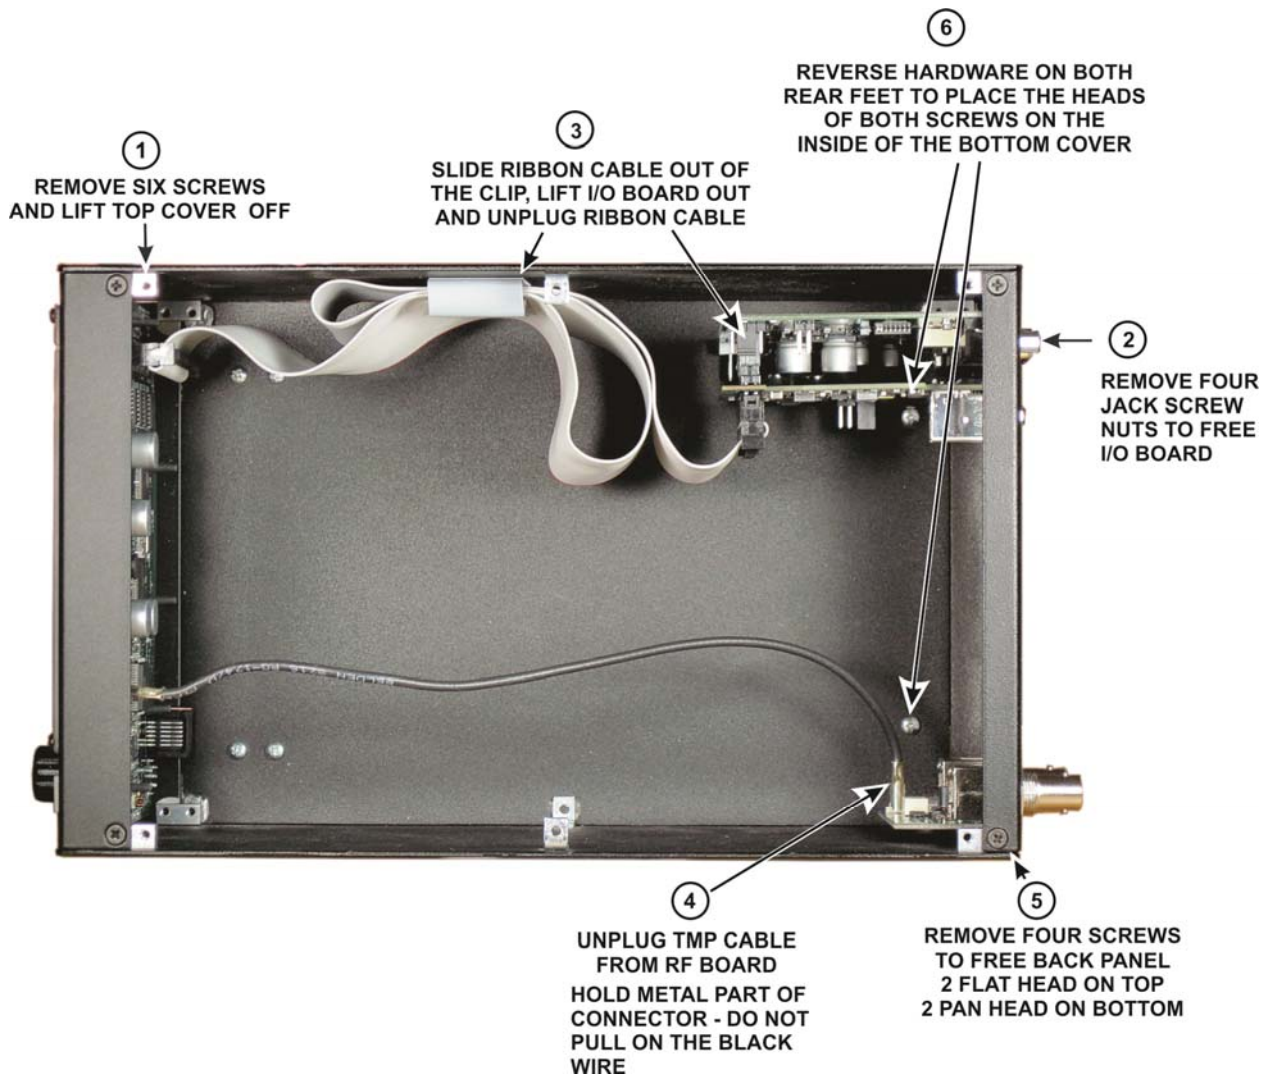
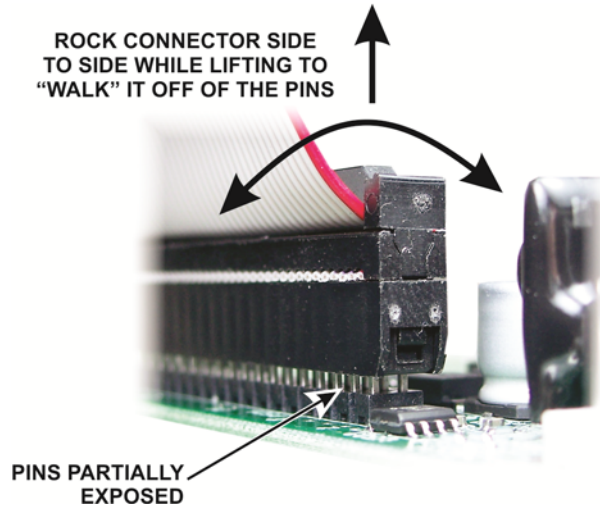
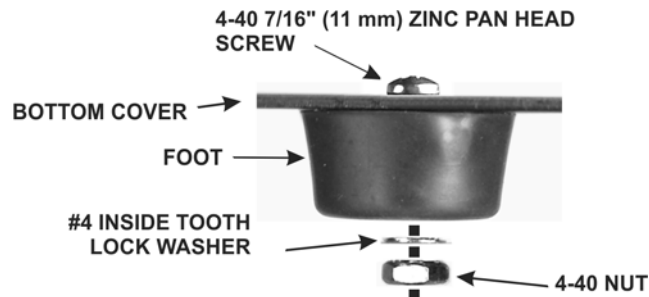
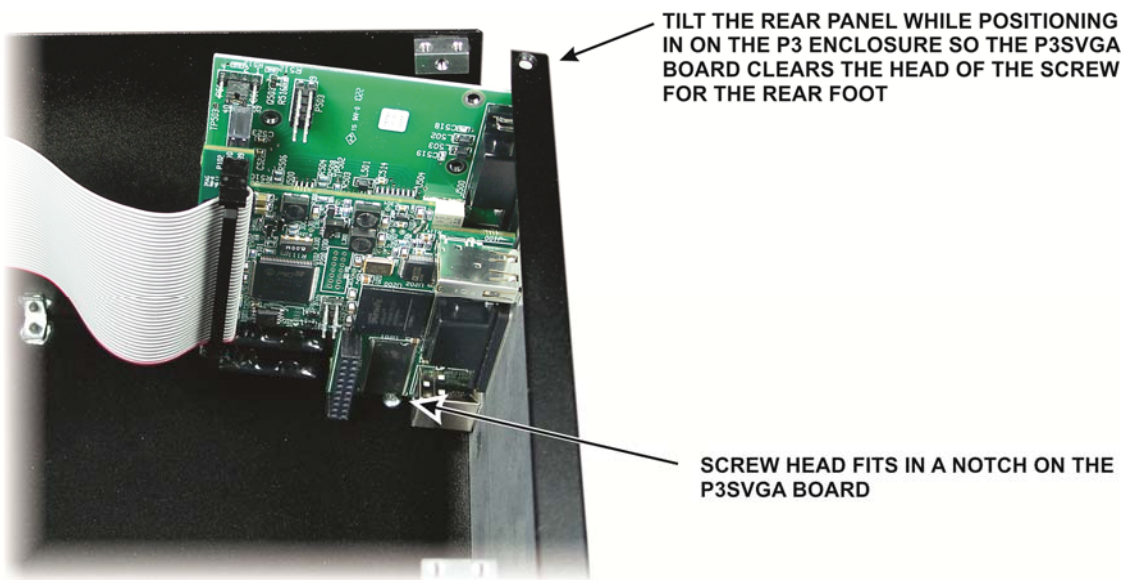

Figure 7. Preparing the P3 to Install the P3SVGA Board.
Figure 8. Unplugging the Ribbon Cable from the I/O Board.
Figure 9. Reversing the Foot Hardware.
Figure 14. Replacing the Rear Panel on the P3.
- Remove the six screws to free the top cover (Figure 7 (1)) and lift the cover off. There is a slot at one end that you can use to lift the cover once it is free.
- Remove the four jack screw nuts and lock washers to free the I/O board (Figure 7 (2))
Lift the I/O board out of the P3 and unplug the ribbon cable (Figure 7 (3)). Take care not to damage the board. Hold the board while working the connector side to side to “walk” it off of the pins as shown in Figure 8.
Unplug the TMP coaxial cable from the RF board (Figure 7 (4)). This is a friction-fit connector. Do not pull on the black coaxial cable. Grip and pull only on the metal connector.
Remove the four screws holding the rear panel in place (Figure 7 (5)) and lift the rear panel off of the P3.
Remove and reverse the mounting hardware for both rear feet as shown in Figure 7 (6)). Install the hardware as shown in Figure 9.
- Replace the rear panel assembly on the P3 as shown in Figure 14. Tilt the assembly so the P3SVGA board does not strike the screw head for the rear foot. The screw head fits in a notch on the P3SVGA board. Secure the rear panel assembly with the screws you removed earlier (Figure 7 (5)).
- Reconnect the TMP cable to the rear panel RF board (Figure 7 (4)).
- Replace ribbon cable in the clip on the side panel (Figure 7 (3)). It is important that the excess cable not be allowed to float freely in the P3 where it may be close to the RF board to avoid digital interference on the P3 display.